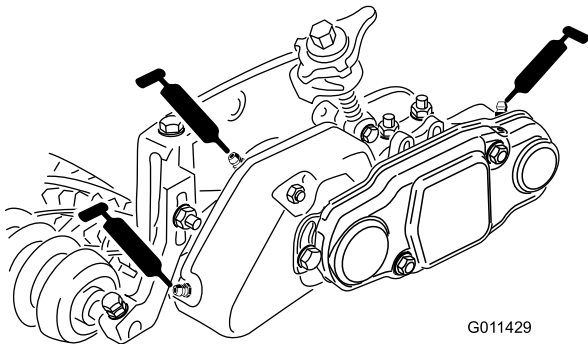

Figure 37
49. Fill each reel bearing housing with grease (Figure 37). Excess grease will purge between the inboard seals and the seal guards.
50. Grease each of the groomer bearings (2 or 3 pumps maximum) (Figure 37). Do not over-grease as excess grease may cause seal failure. Wipe off any excess grease.